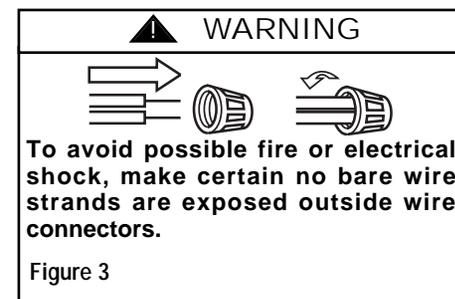

Figure 3
- Carefully locate the white and blue wires (labeled either "L" or "LIGHT") in the switch housing. Remove and retain the wire connectors(3) from the wires.
- Connect the white wire from the ceiling fan to the white wire of the light fitter(6). Connect the blue wire from the ceiling fan to the black wire of the light fitter. Use U.L. listed wire connectors(3) (previously removed in Step 5) to make connections. (Figures 3 and 4).